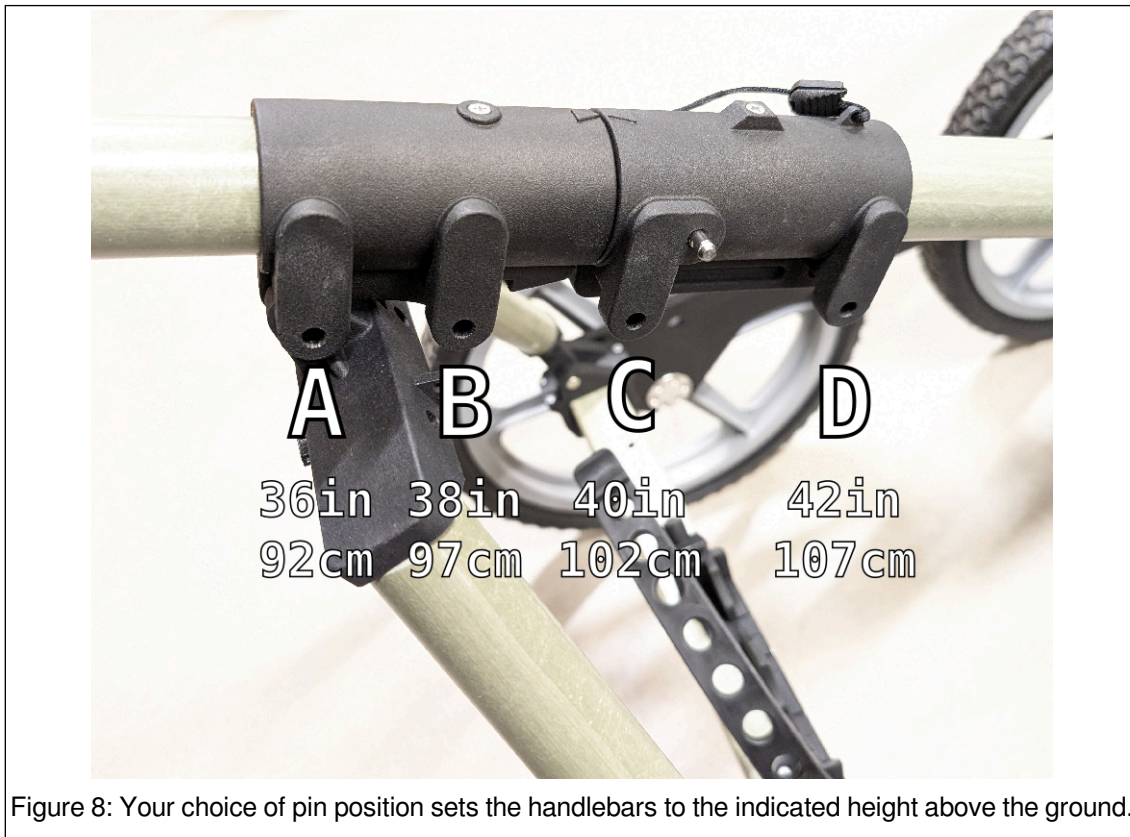

Figure 8: Your choice of pin position sets the handlebars to the indicated height above the ground.
12. Rotate the handlebar assembly so that the triangle on the handlebar assembly matches the triangle on the top of the strut. See Figure 8.
13. Insert the pin attached to the strut through the upper hole on the strut (Figure 8 shows this pin installed).
15. Align the top of the diagonal brace to one the the positions (A, B, C or D) shown in Figure 8.